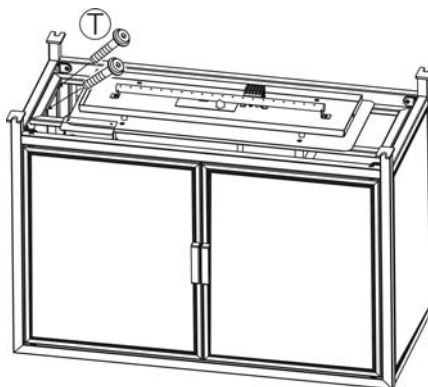

Figure 4
4. Attach the firepan / burner assembly to the side panels by using four 1/4" x40 mm bolts as shown in Figure 4. Hand tighten only 2-3 turns.